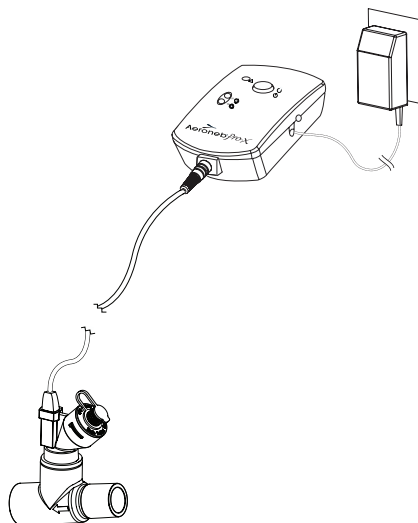

Figure 5: Connecting the Aeroneb® Pro-X AC/DC adapter (AG-AP1040-XX)
4. Connect the Aeroneb® Pro-X AC/DC adapter to the Aeroneb® Pro-X controller as shown in figure 5.